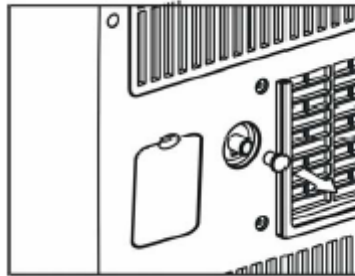
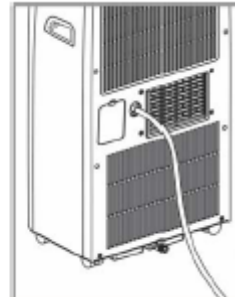

Fig. 7
Fig. 8
- During dry (dehumidifying) mode, remove the drain plug from the back of the unit (Fig. 7) and install a drain hose (Fig. 8) of 10mm inner diameter and place the open end of the hose into a vessel such as a bucket.